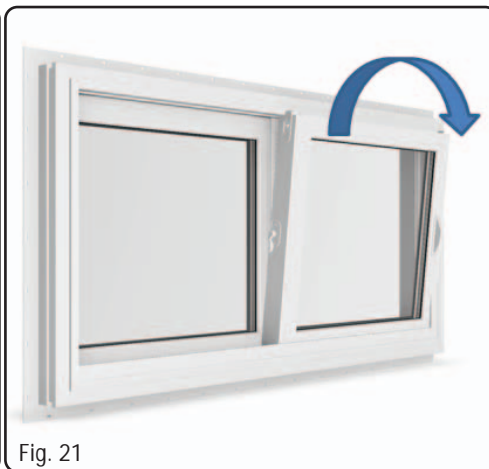

Fig. 21
3. While keeping the tilt latches retracted, tilt the sash inward (Fig. 21).